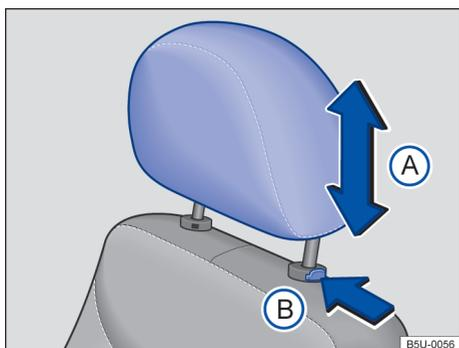
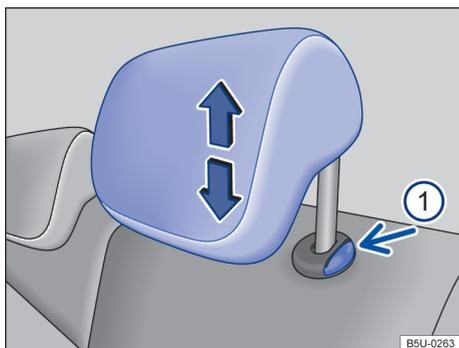

Fig. 58 Front head restraint: adjust, remove and install.
Fig. 59 Rear head restraint: adjust, remove and install.
- Push the head rest up or down in the direction of the arrow → Fig. 58 Ⓜ️ → ⚠️ in *Introduction* on page 61.
- Move the headrest up or down in the direction of the arrow with the button → Fig. 59 Ⓜ️ held down → ⚠️ in *Introduction* on page 61.
- Press the button → Fig. 58 Ⓜ️ or → Fig. 59 Ⓜ️ in the direction of the arrow. Remove the head rest while pressing the button.
- Push the head restraint all the way down with button → Fig. 58 Ⓜ️ pressed.
- Press and hold → Fig. 59 Ⓜ️ to push the head rest downwards.